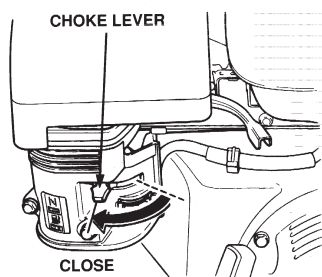

Figure 22. Engine Choke Lever (Closed)
2. Place the choke lever (Figure 22) in the **CLOSED** position if starting a cold engine.